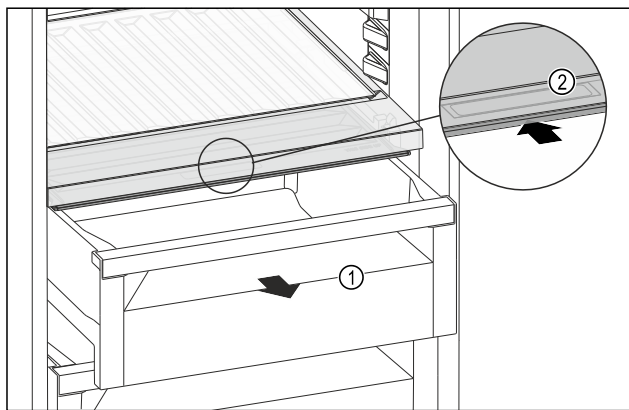

Fig. 171
- ▶ Pull out the drawer Fig. 171 (1).
- ▶ Grasp the recessed grip Fig. 171 (2) on the compartment lid and push the compartment lid backwards at the same time.